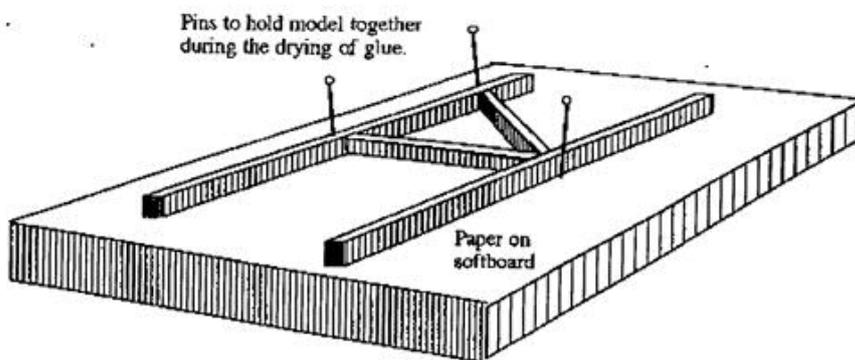

Figure 3 - Using pins and a soft board
- 5) It is believed that methods (1), (2) and (3) are very efficient, and little advantage is gained if teams use extra joint clamps.
- 6) If the glue requires a long period in order to set, then the model can be clamped in place as shown in Figure 3. If the glue is quick drying, then it is still necessary to clamp certain members to be in the same place.